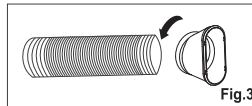

Fig.3
- 2 .Extend the other side of the hose and screw it to the hose outlet (Fig.3).